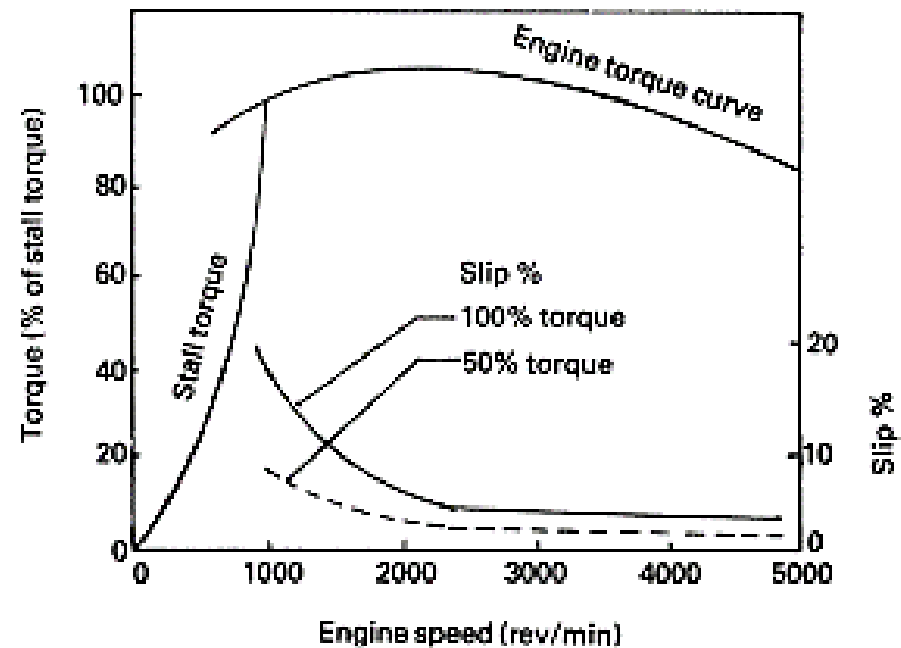

Fig. 6. Relationship between engine speed, torque and slip for fluid coupling.
- The percentage slip is greatly dependent on the engine speed and load condition of the output turbine (Fig. 6).